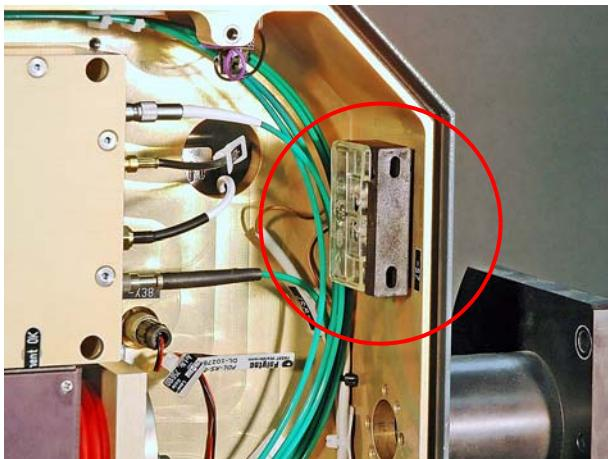

Figure 6.11 Interlock switch bridged
7. Bridge the interlock switch (Figure 6.11).